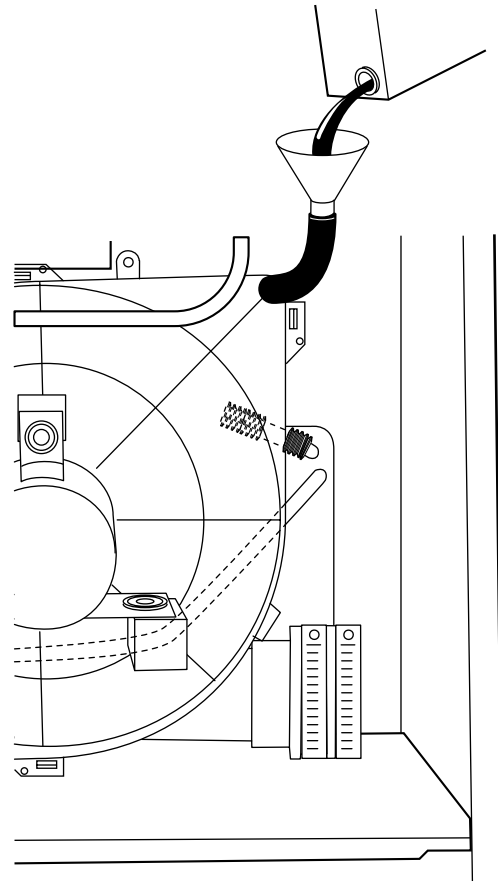

Fig. 14—Funnel in Drain and Antifreeze Running Through Trap
4. Insert funnel in drain tube and pour antifreeze, propylene glycol (RV, swimming pool antifreeze, or equivalent) into furnace until it is visible at point where condensate enters open drain. (See Fig. 14.)